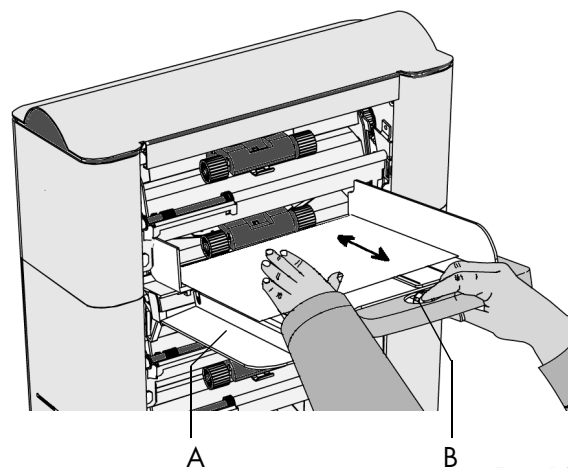

Fig. 12
- push the knob B (fig. 12) forward until it clicks.
- open the left side guide A (fig. 12) by turning it downwards.
Pull the knob B (fig. 12) back again when ready. Close the left side guide.